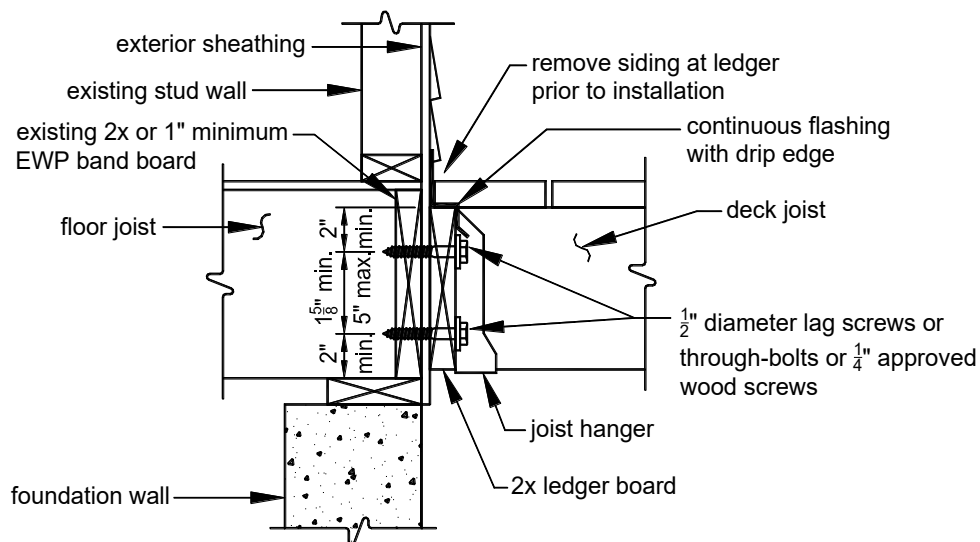

FIGURE 12: LEDGER BOARD-TO-BAND BOARD ATTACHMENT
- The ledger board shall be attached in accordance with one of the conditions shown in FIGURES 12 through 14.
- Continuous flashing with a drip edge, as shown in FIGURE 12, is required at the ledger board when attached to wood-framed construction. Check Local Jurisdiction for alternative methods.